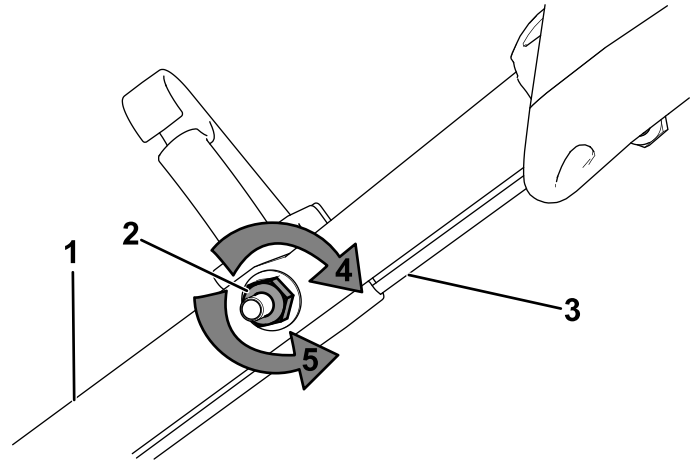

Figure 31
1. Turn the adjustment nut counterclockwise to loosen the cable adjustment (Figure 31).
2. Adjust the tension on the cable (Figure 31) by pulling it back or pushing it forward and holding that position.